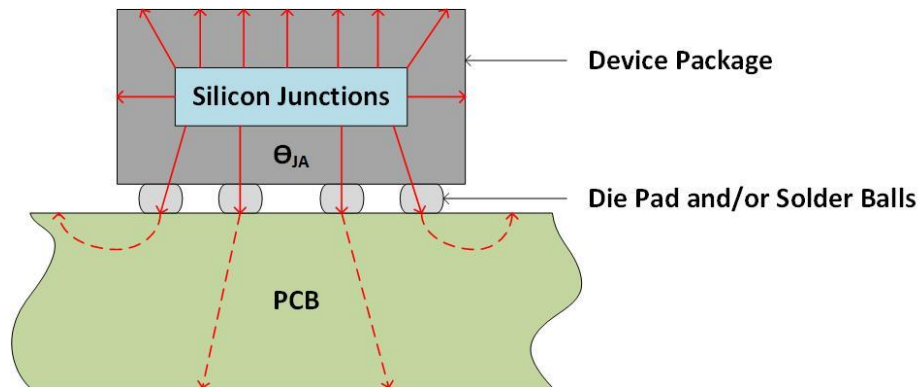
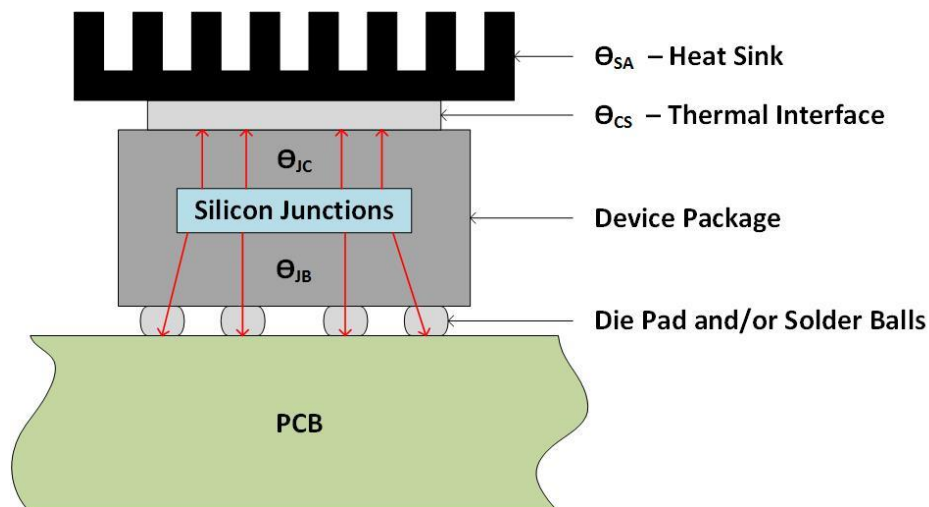

Figure 1.1. Thermal Resistance Path from Silicon Junctions to Ambient Air
Figure 1.2. Thermal Resistance Path from Silicon Junctions to Package Top and to PCB
In addition to the device and package, the thermal characteristics of a circuit depend on the operating temperature, device power consumption, and the ability of the system to dissipate heat. The maximum junction temperature of a device can be calculated using the equation below that corresponds to the type of thermal management utilized in the design. Equation 1.1 is for a simple system that dissipates heat directly from the device to the ambient air, as shown in Figure 1.1. Equation 1.2 is for a system that has a heat sink located on the top of the device, as shown in Figure 1.2. Finally, Equation 1.3 is used for a system that dissipates the device heat into the PCB, as shown in Figure 1.2.
2. θ_{JB} (θ_{JB} = Junction-to-Board Thermal Resistance). θ_{JB} value shown is only applicable when the package thermal pad and/or solder balls are soldered directly onto user PCB (see Figure 1.2).